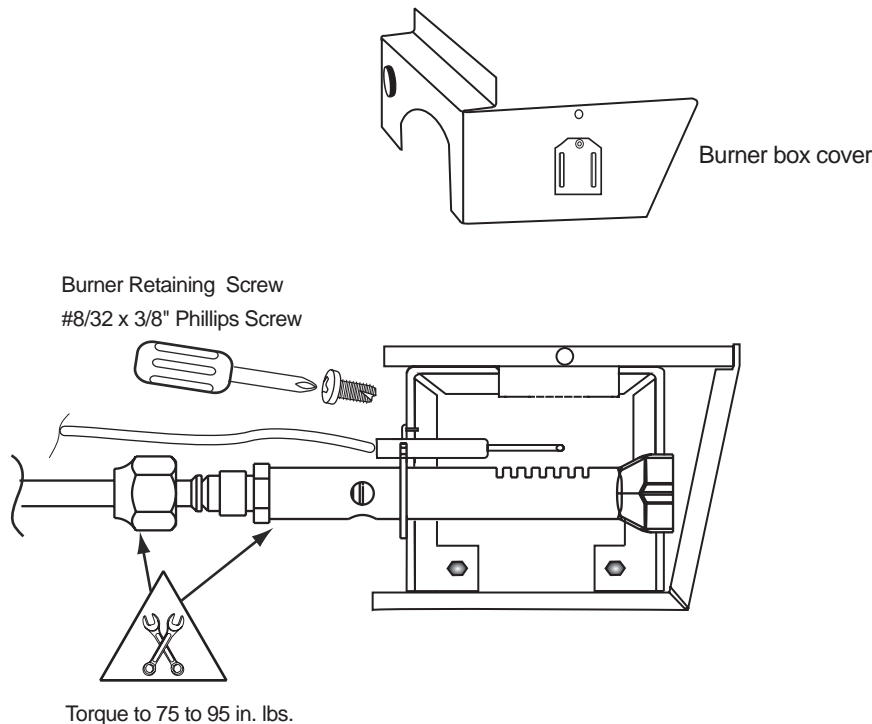

Figure 4-7. —Installing burner in burner box
12. Insert the burner into the burner box, then install the #8/32 x 3/8" Phillips retaining screw. See Figure 4-7.